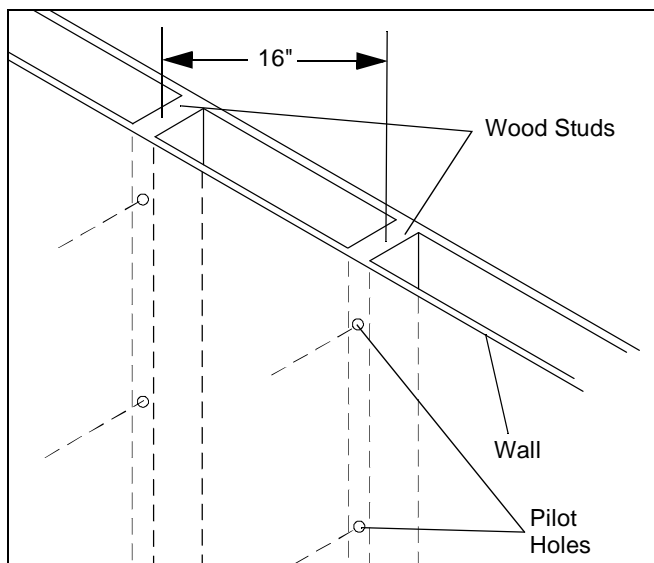

Figure 1
7. Drill two 9/32" pilot holes where the mounting holes were marked for anchoring the top bracket on the PDR. (See Figure 1)